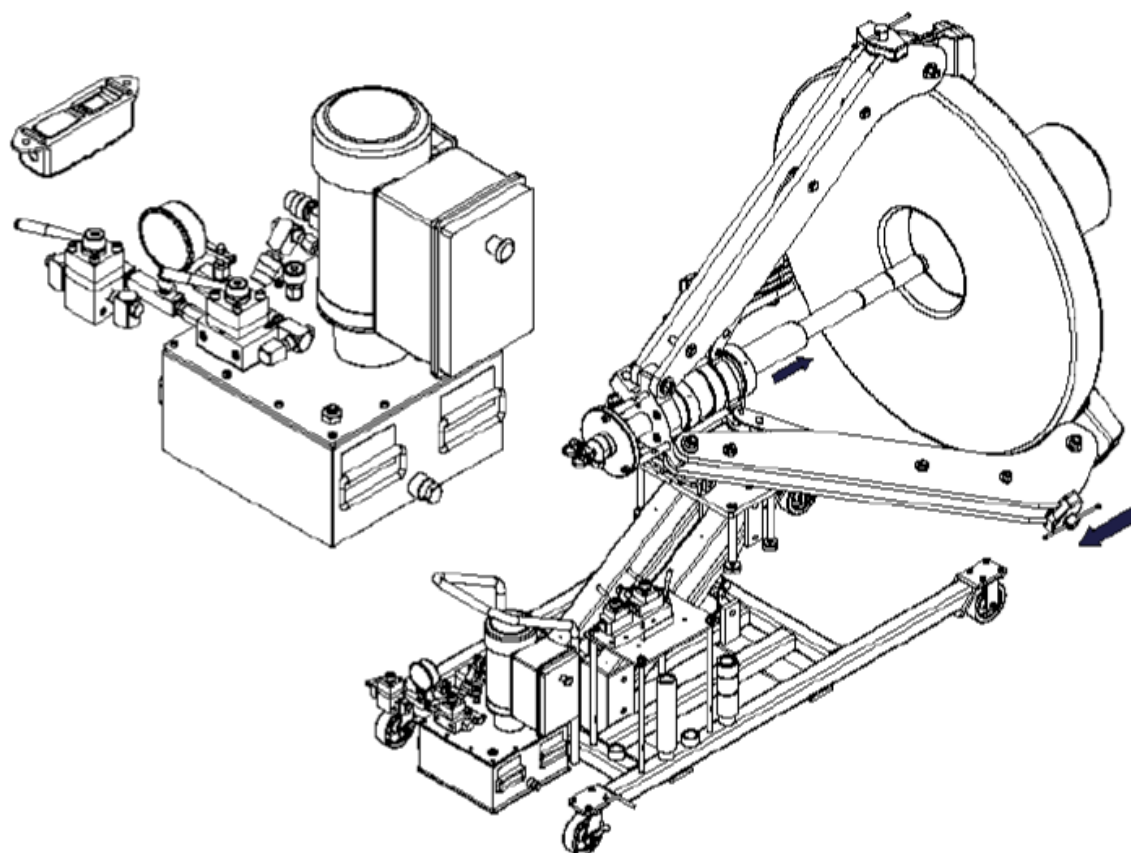

*Figure 6 – Advancing the Forcing Cylinder*
- 5.3.6 Once the puller is aligned, press the button on the remote switch to advance the forcing cylinder (PULL CYL.) toward the object, stopping just as the cylinder head touches the shaft (see Figure 6).